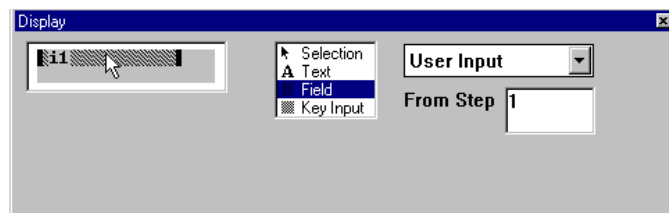

Figure 2-51 Display - Default Field Object
5. The field object defaults to **User Input** from **Step 1**; this is indicated by the **il** in the field object. When the field object is selected, its information is displayed to the right of the tool palette. (Figure 2-51 shows **User Input** from **Step 1** as the information. This means that the user input from the Input Handler in Step 1 will be displayed in this area when this Input Handler is the “current” Handler.)